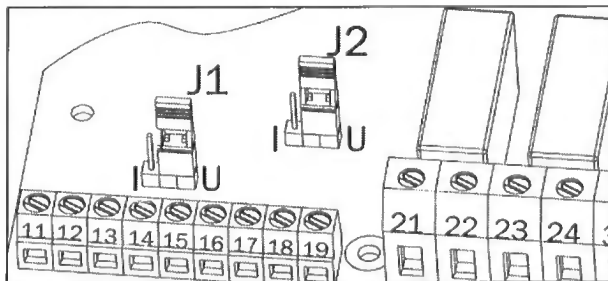

Fig. 52 Setting of current or voltage output.
2. Set Jumper J2 on the PCB board to voltage (U) or current (I) signal position. Factory setting is voltage (U). See Fig. 52 on page 52 and Fig. 24 on page 28.